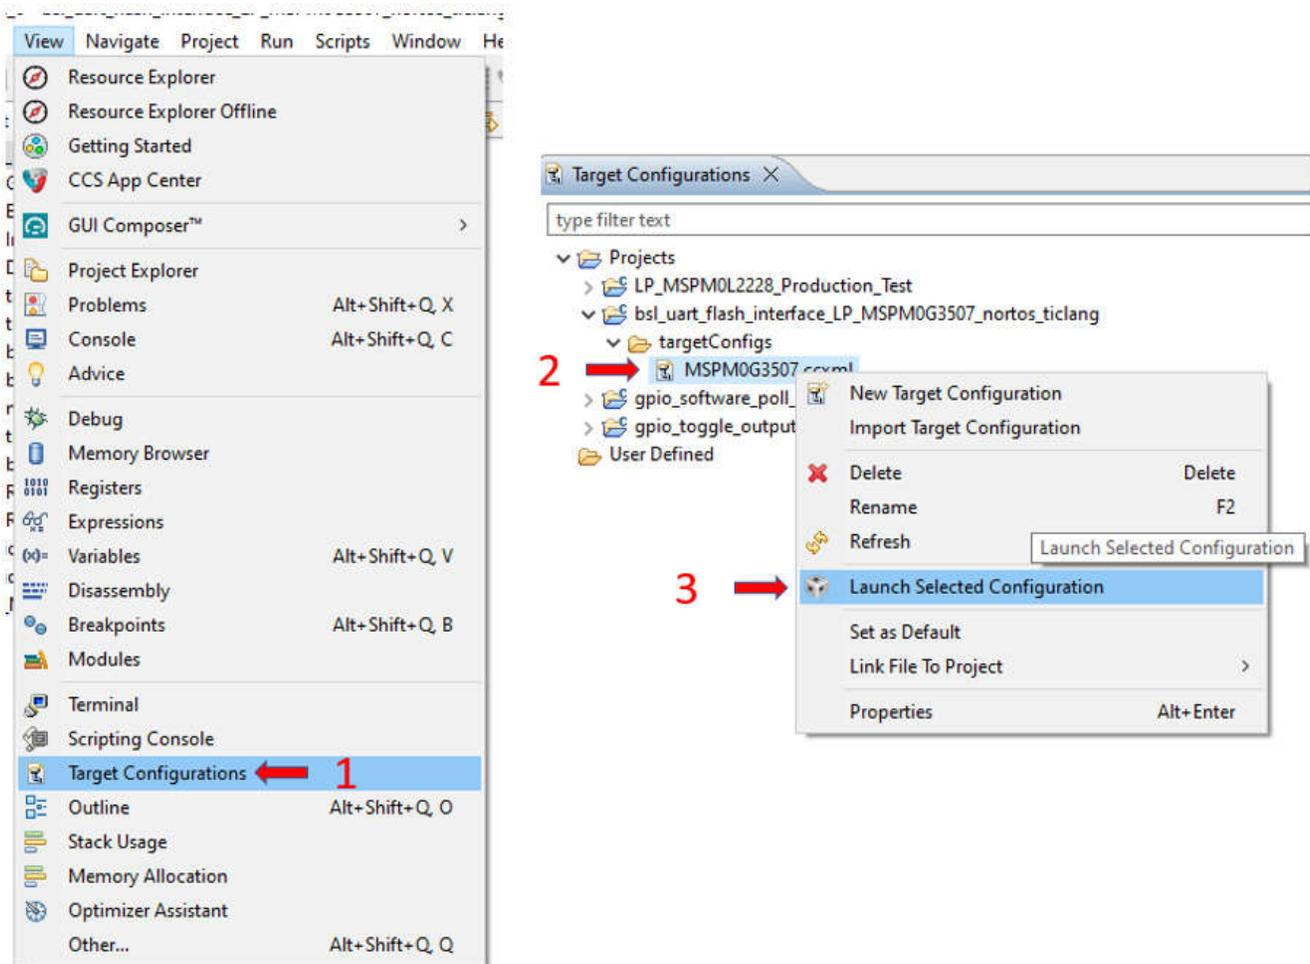

Figure 5-1. Launch the Device in CCS
3. Launch the device as shown in Figure 5-1. Step 2 is to right-click the ccxml file.